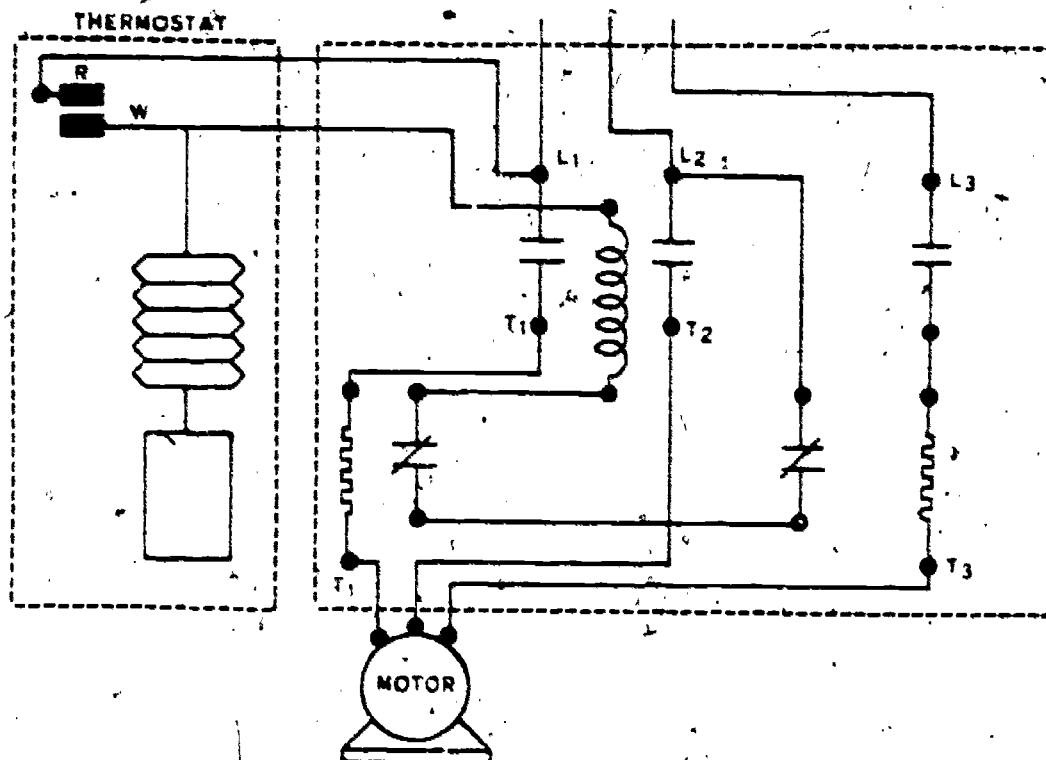

Figure 16. Three-Phase Across the Line Motor Starter
1. Use figure 16 to complete the following.